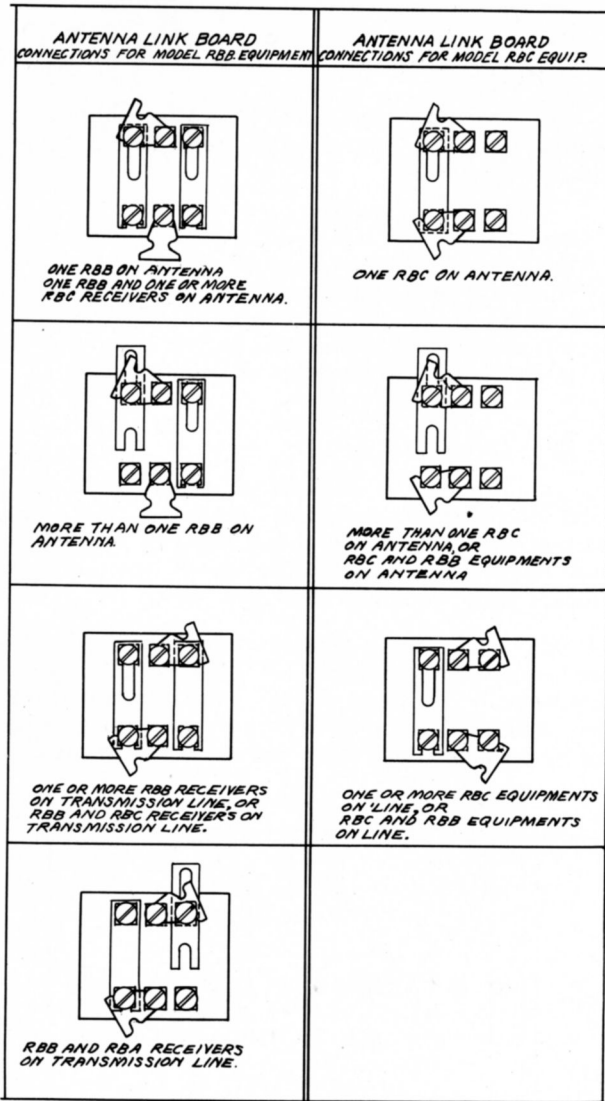

Figure 2-4—Models RBB/RBC Radio Receivers Antenna Link Board Connections (MX-244726)
(3) Connect the antenna link connectors as required for the particular installation (see Figure 2-4). The antenna link connection board (E105 or E209) is located beneath a small shield cover on the side of the receiver unit chassis near the antenna receptacle (J101 or J201).
(4) Make certain that the proper band-pass filter unit is installed in the receiver i-f/a-f unit: